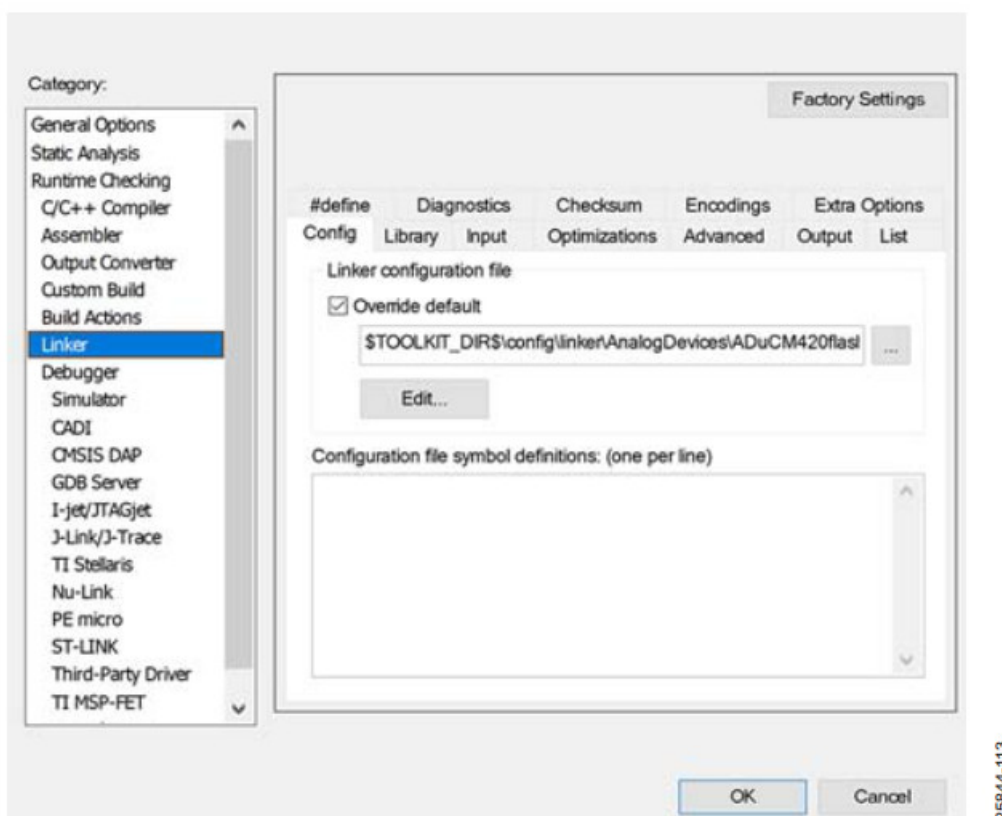

Figure 14. **Linker** Setting
- Next, click the Linker category, check the Override default box in the Config tab, and browse for the linker file under the Linker configuration file section, as shown in Figure 14.